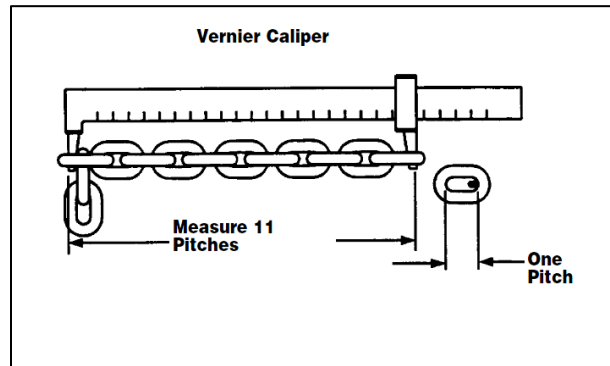

Figure 6.6.1
4. Check load chain for wear at the inter-link contact points. Slacken the chain and move adjacent links apart to one side to observe and inspect for wear at the contact points. If wear is observed, measure the diameter of the chain link at the wear contact point. Case hardness of chain is about 0.015" deep. Chain must be replaced before the case is worn through. Also check chain for elongation using a Vernier caliper (see Figure 6.6.1).
5. Select an unworn, un-stretched section of chain (usually at slack or tail end) and measure and record the length over the number of chain links (pitches) indicated in figure 6.6.1. Measure and record the same length of a worn section in the load side of the chain. Obtain the amount of wear by subtracting the measurement of the unworn section from the measurement of the worn section. If the result (amount of wear) is greater than the amount specified in the "Allowable Chain Wear" (Table 6.6.1) then the chain has elongated beyond the maximum allowable length and must be replaced.